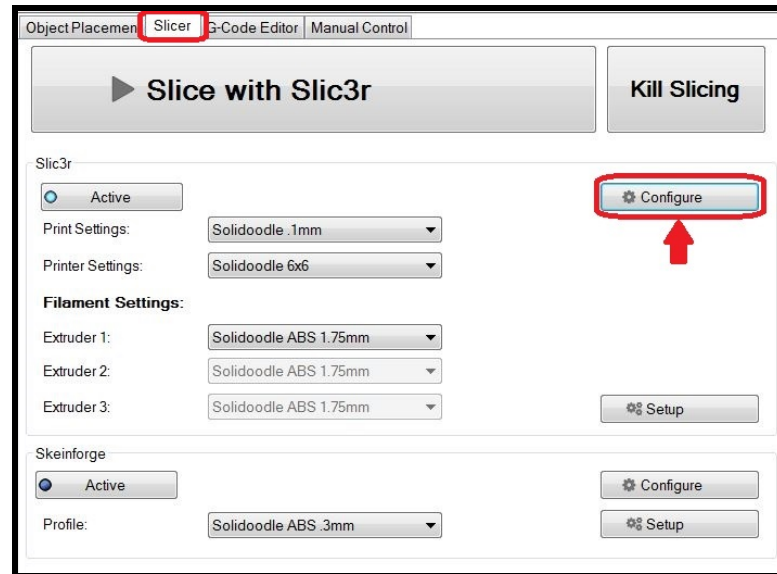

Figure 3.2: Click Configure
32. In the Repetier Host program, click on the tab labeled "Slicer" on the right hand side of the screen. Click on the **Configure** button on the top right hand corner of the Slicer tab window (see Figure 3.2).